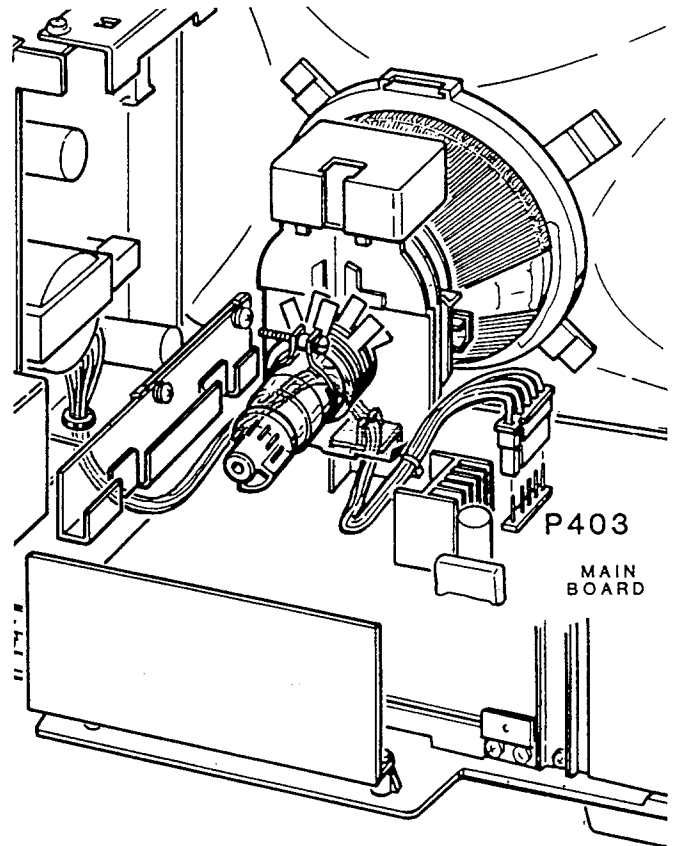

Figure 3-16. Disconnecting P403
3. Cut the cable ties and disconnect cable connector P403 from the main board, as shown in Figure 3-16.